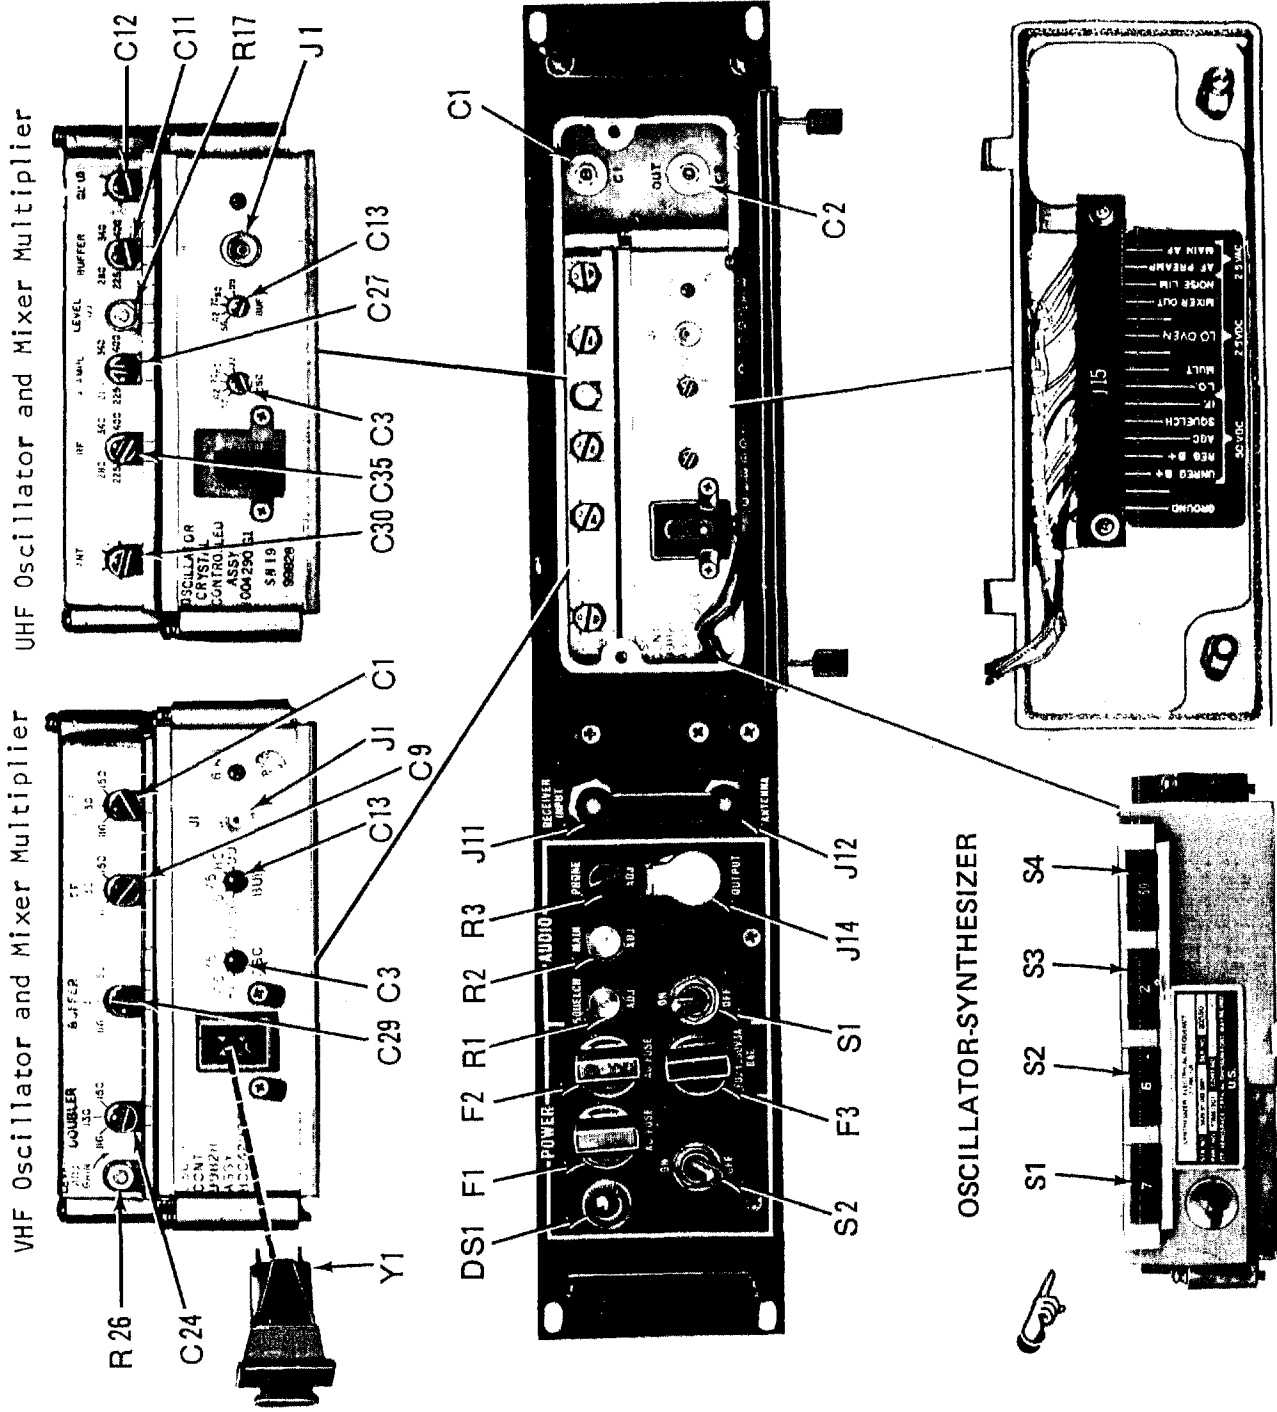

Figure 3-1. VHF Receiver and UHF Receiver Controls and Indicators
3-4. Controls and indicators are listed and defined in table 3-1 and illustrated in figure 3-1.
3.11 UHF RECEIVER TUNING AND POST TUNING CHECKOUT. After selecting the proper crystal for the desired operating frequency, place it in the crystal holder as shown in Figure 3-1 and